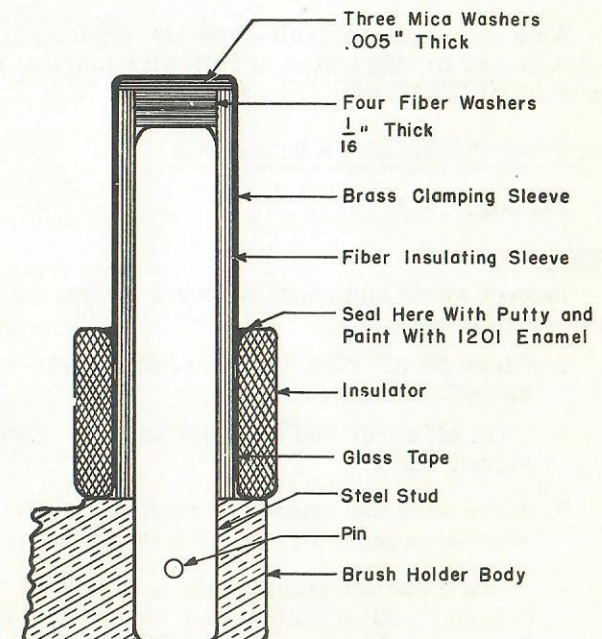

Fig. 12-10
1. Completely assembled studs may be ordered, which are machined 0.005-inch oversize on end of stud which is pressed into brush-holder body. This insures that new stud will be a tight fit in old holes after pressing out the defective stud. To assemble new stud, support stud in clamping fixture (see Fig. 12-10) and press it into reamed hole in body casting; take precautions to maintain correct spacing and alignment. Then drill hole for rivet or pin, through casting and stud, assemble pin and rivet over both ends to prevent it from working out.
2. Replace defective insulation only, without removing steel stud from brush-holder casting. Refer to Fig. 12-10.
3. Push new insulator, glazed end down, over the glass tape until it rests against casting. Insulator should be a snug, sliding fit over tape. See Fig. 12-10.